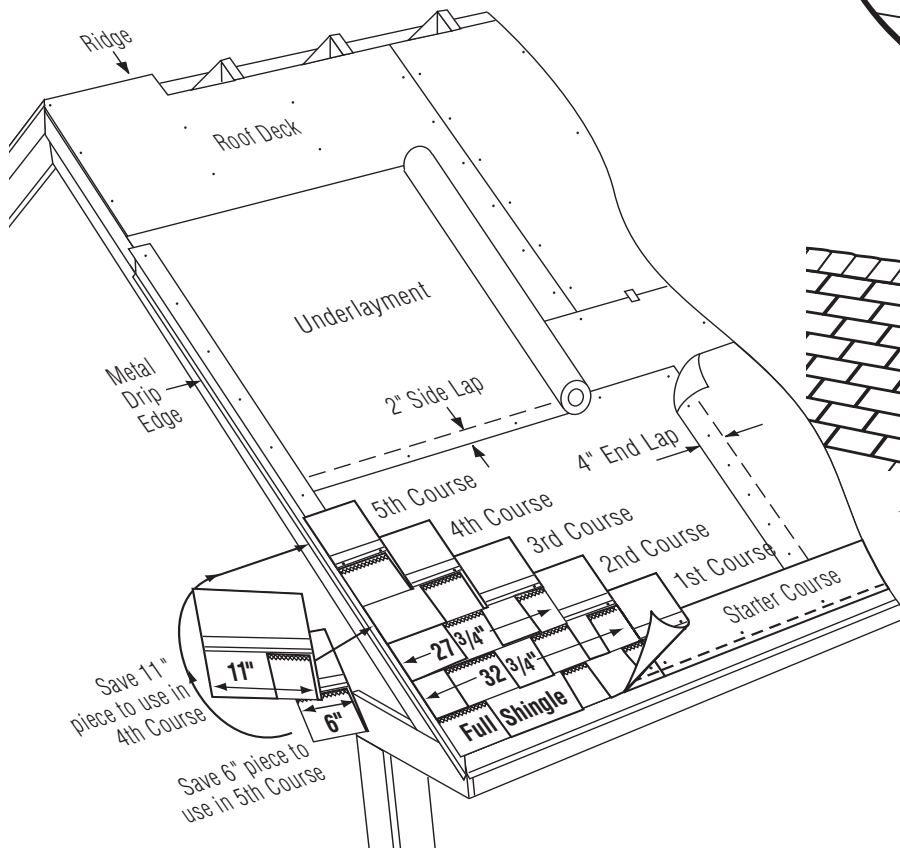

Figure 12-12: Applying the first 5 courses of Metric dimension. Note: The LandMark TL dimensions differ.
1ST COURSE: Apply a full shingle at the lower left corner of the roof. Make the lower edge and left edge lie flush with the edges of the starter course (Figure 12-12).
1. Cut 6" off the left end of the first shingle and save this piece for later use. Apply the 32³/₄" (34" for Landmark TL) long piece over and above the first-course shingle. Leave the bottom 5⁵/₈" tab portion of the first-course shingle exposed (Figure 12-12).